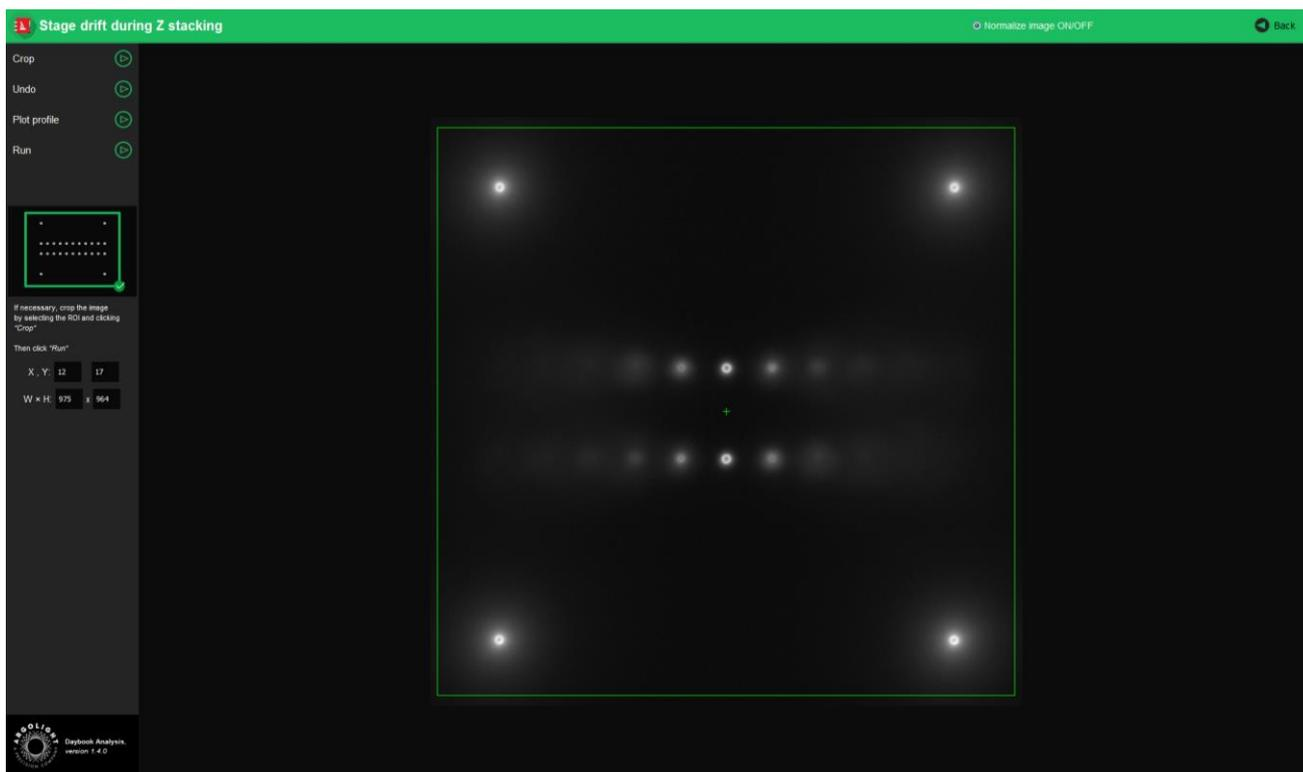

Figure 2: Crop window.
- e) If needed, select a region of interest (ROI) and click on “Crop” to crop the image (cf. Figure 2).